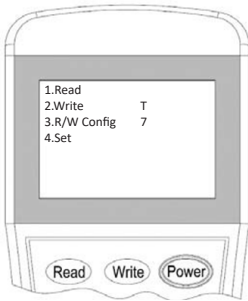

Figure 10
3. Switch-on the programming tool, then press button “**3**” to enter to Configuration mode (Figure 10).